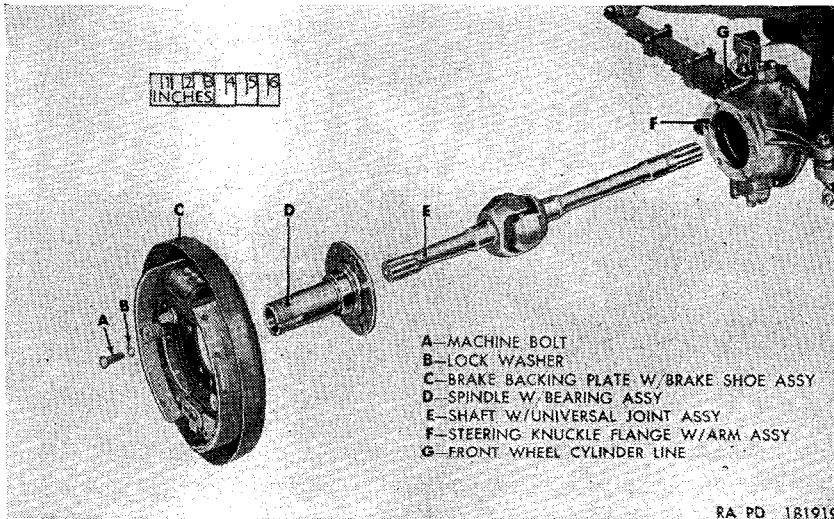

Figure 136. Shaft with universal joint, spindle with bearing, and brake backing plate with brake shoe assemblies—partially exploded view.
- (7) Pull the hub and brake drum (P) from the spindle, and remove the hub bearing cone (outer) (L) from the hub. The hub bearing cone (inner) will remain in the hub.
- (8) Unscrew the nut securing the front wheel cylinder line (G, fig. 136) to the front wheel cylinder assembly.
- (9) Remove the six machine bolts (A, fig. 136) and lockwashers securing the brake backing plate with brake shoe assembly (C, fig. 136) and the spindle with bearing assembly (D, fig. 136) to the steering knuckle flange with arm assembly (F, fig. 136). Remove the brake backing plate with brake shoe assembly off the spindle. Remove the spindle from the steering knuckle flange.
(10) Withdraw the shaft with universal joint assembly (E, fig. 136) from the axle housing.
- (1) Insert the shaft with universal joint assembly (E, fig. 136) through the steering knuckle flange with arm assembly (F, fig. 136) and into the axle housing. Rotate the shaft until it can be started into the differential side gear. With a soft mallet, tap the shaft until it seats in the housing.
- (2) Place the spindle with bearing assembly (D, fig. 136) on the shaft with the spindle mounting holes alined with the steering knuckle flange mounting holes, and tap the spindle into position against the flange. Place the brake backing plate
with brake shoe assembly (C, fig. 136) on the spindle with the backing plate mounting holes alined with the spindle and steering knuckle flange mounting holes. Secure the backing plate and spindle to the flange with six  $\frac{3}{8}$ -inch lockwashers and  $\frac{3}{8} \times 3\frac{3}{4}$  bolts (A and B, fig. 136).
- (3) Screw the front wheel cylinder line (G, fig. 136) nut into the front wheel cylinder assembly.
- (4) Place the hub and brake drum (P) on the spindle. With the small end of the bearing taper toward the vehicle, insert the hub bearing cone (outer) (L) into the hub, and press into position.
- (5) Slide the hub bearing washer (K) on the spindle shaft with the washer tang in the shaft slot. Screw the hub bearing adjusting nut (J) on the spindle shaft, fingertight.
- (6) Position the wheel on the wheel hub and brake drum. Screw five  $\frac{1}{2}$ -inch nuts on the hub studs (left wheel, counterclockwise; right wheel, clockwise). Tighten the nuts alternately and evenly.
- (7) Adjust the front hub bearing (par. 208a(2)).